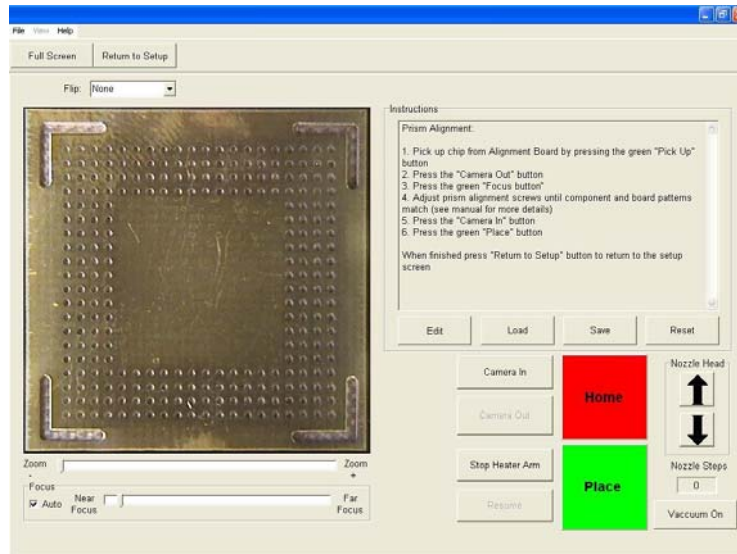

Figure 10
- iii. Monitor now shows calibration screen. (Figure 10)
(Figure 10)